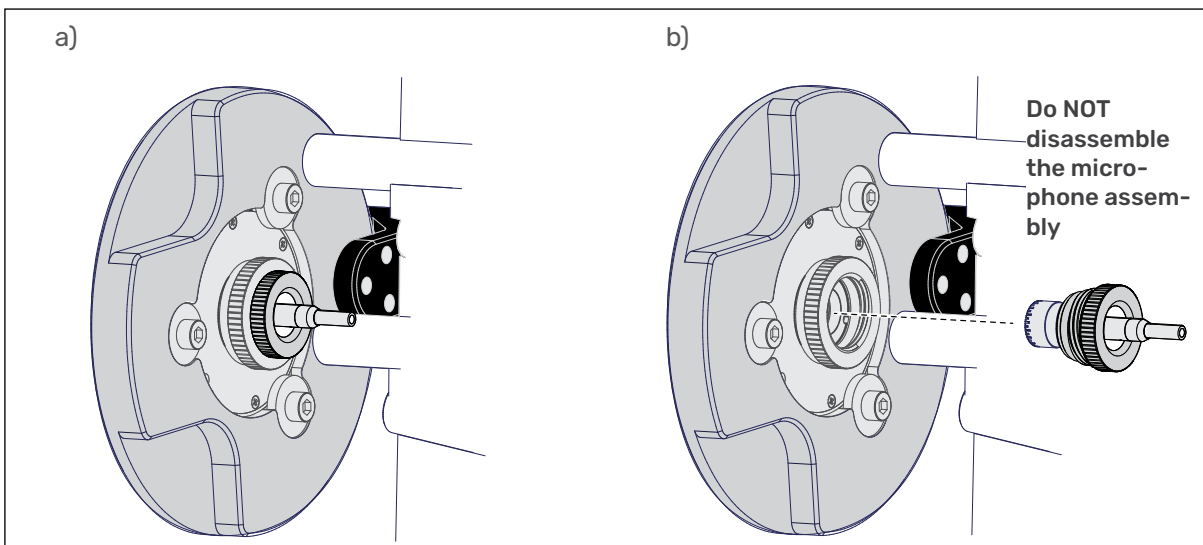

Fig. 19. Removing a microphone assembly for calibration. When removed from the assembly (b), it is ready for calibration.
1. To calibrate the microphones in 45CC-1 to -4, -9 and -10, you must first remove them from the ear plates as shown in Fig. 19.